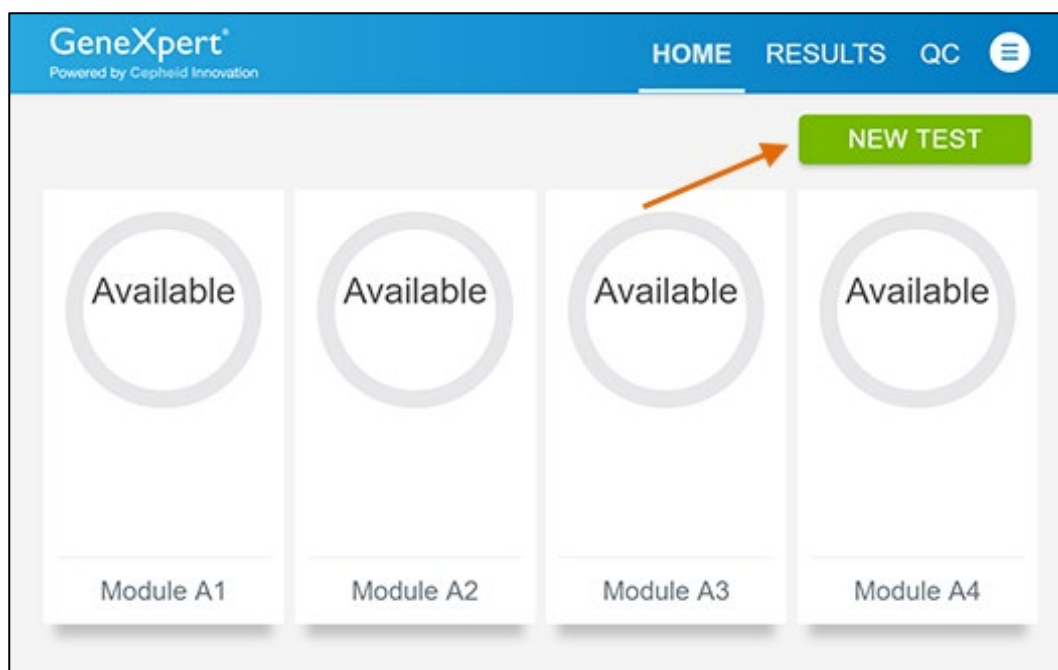

Figure 15. Home Screen
2. Touch the **NEW TEST** button on the Home screen (see Figure 15).